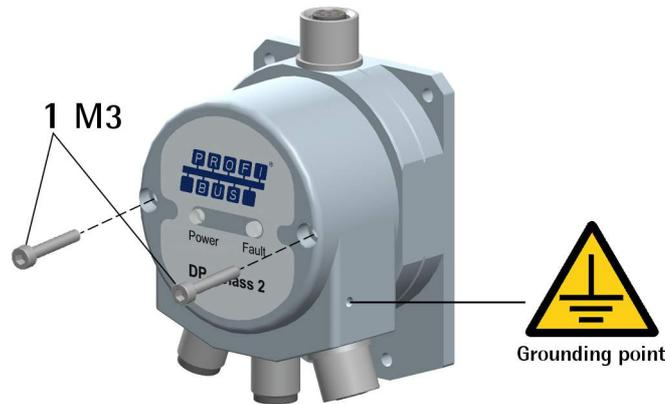

Figure 5
4.1 Connection cap of the converter (Figure 5)
To remove the connection cap loosen the two M3 screws **1** (Figure 5). Please be careful with the internal connector.
4.5 Ground connection (Figure 5)
Minimize noise by connecting the shield and/or the connector housing and/or the enclosure to ground. Make sure that ground is not affected by noise. The connection point to ground can be situated both on the device side and on user's side. The best solution to minimize the interference must be carried out by the user. You are advised to provide the ground connection as close as possible to the unit. We suggest using the ground point provided in the connection cap (see Figure 5, use one TCEI M3 x 6 cylindrical head screw with two tooth lock washers).
The power supply voltage level to be provided to the connected encoder must be set through the POWER SUPPLY DIP switch located inside the enclosure of the converter. It must be according to the power supply voltage level required by the connected SSI encoder. To access the POWER SUPPLY DIP switch refer to the "4.1 Connection cap of the converter (Figure 5)" section on page 23.